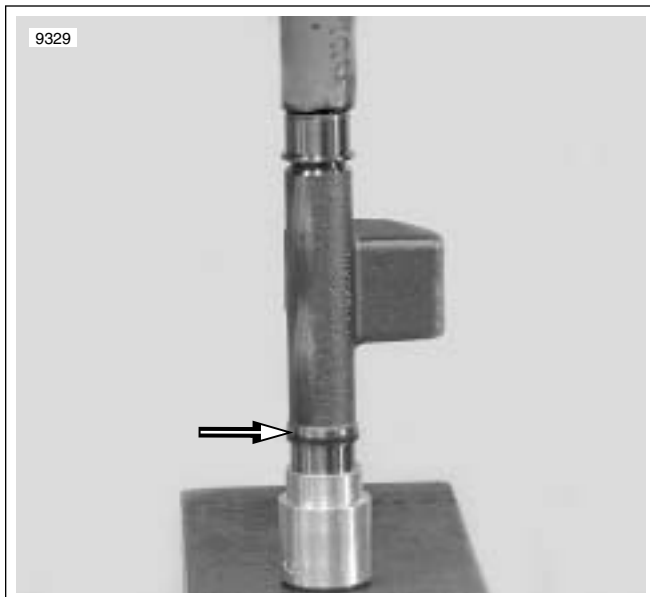

Figure 3-169. Outboard Bearing Race
2. See Figure 3-169. Press **new** outboard bearing race flush against the shoulder of the balancer.